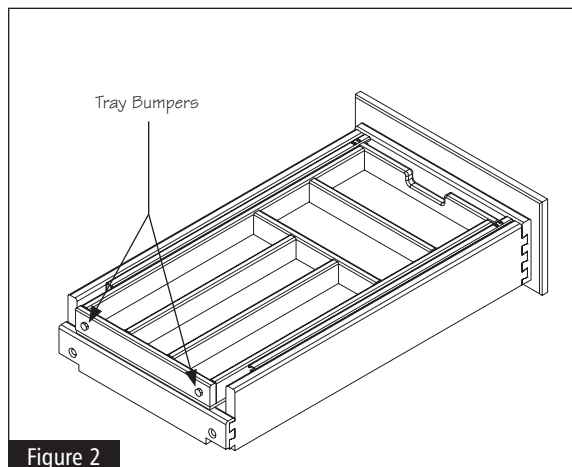

Figure 2
**3** Attach two (2) Tray Bumpers to the back of the sliding tray (see Figure 2).